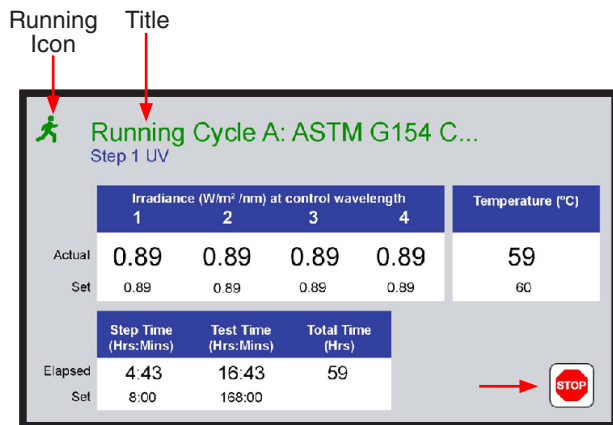
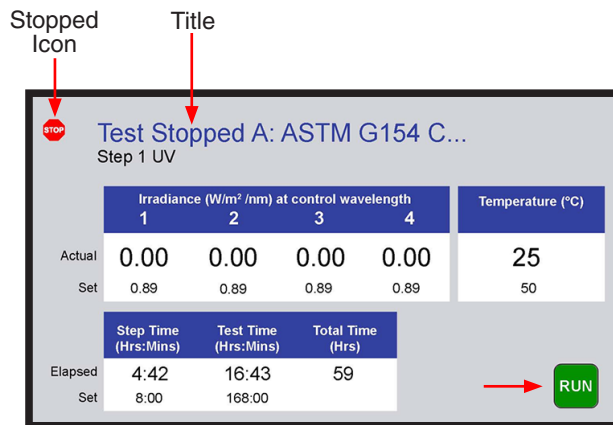

Figure 9.2b: Status icon and title when test running.
Figure 9.2c: Status icon and title when test stopped.
- A colored icon and title at the top of the screen indicate the overall status of the test: running or stopped (Figure 9.2b, Figure 9.2c).